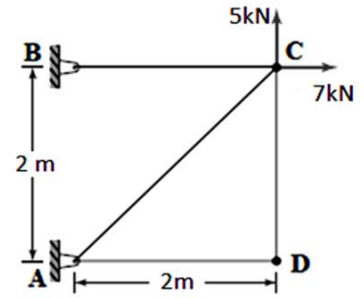

Fig. 2
4. The plane truss shown in Fig. 2 is composed of members having a square 12 mm × 12 mm cross section. The members are made of MS. Now write down final FEA formulation to determine deflection at joint C and D under the given load. Also mention required FEA formulations to find member reaction forces and member stresses. Modulus of elasticity of truss members' material is given as 210 GPA.